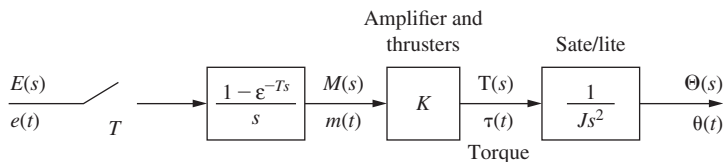

FIG. P4.3-10 Block diagram for a satellite.
4.3-10. Given in Fig. P4.3-10 is the block diagram of a rigid-body satellite. The control signal is the voltage $e(t)$. The zero-order hold output $m(t)$ is converted into a torque $\tau(t)$ by an amplifier and the thrusters (see Section 1.4). The system output is the attitude angle $\theta(t)$ of the satellite.